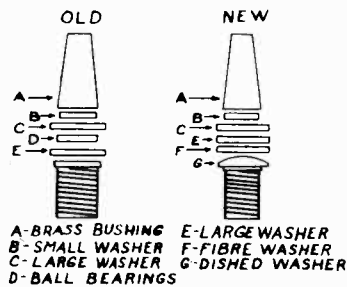

FIGURE 1
A. The rumble in the Models 42-1010 and 1016 can be easily corrected by replacing the turntable bearing. Remove the turntable and the spindle and then take out the brass cone and the ball bearings and washers. Rebuild the bearing, using the old washers and the new flat fiber washer and the concave steel washer. (See Figure 1). Add "Stay-Put Grease" or "Lubriplate" between the washers to eliminate friction. When replacing the spindle assembly, the spindle must be more than $\frac{1}{2}$ turn loose while lining it up with the record support shelf.